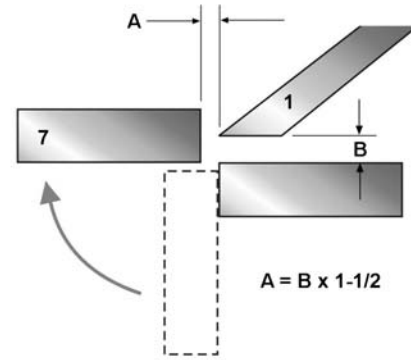

Figure 3
The bending leaf blade (7) must be adjusted for proper clearance, or “setback” (A, Figure 3) based on material thickness (B, Figure 3). Generally, setback for material within four gauges of capacity should be twice the thickness of material. For lighter gauges, use 1-1/2 times the material thickness. Consult a machinery handbook for bend allowances.
1. Loosen setback locking screws (5).
2. Rotate setback knobs (6) in equal amounts (clockwise decreases distance).